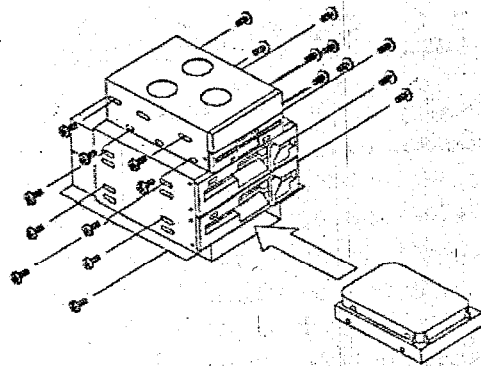

Figure 2.3-3: Inserting the drives into the drive bay
3. Remove the cover to the drive bay front and insert the drives into their proper locations in the drive bay. (See Figure 2.3-3)